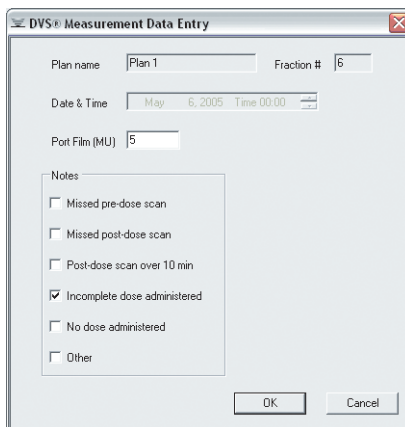

Figure 37 — Measurement Data Entry
2. Click **Edit** to display the **Measurement Data Entry** dialog box (Figure 37).